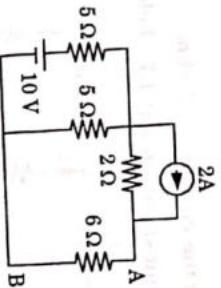

Fig. 1.6.1.
**Que 1.6.** Use source transformation method to compute the current through  $6\Omega$  resistor of Fig. 1.6.1.